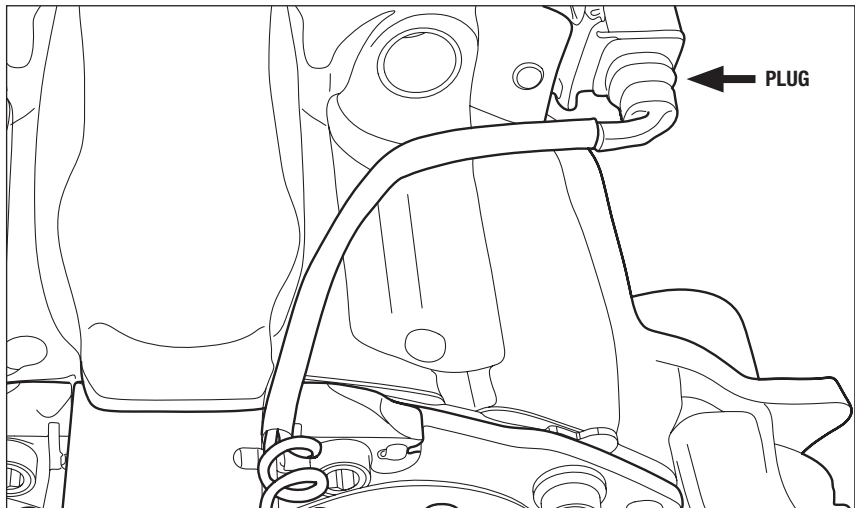

Figure 12
1. Fit PWWI plug to fixing bracket, check correct orientation of cable and plug elbow. (Figure 12)